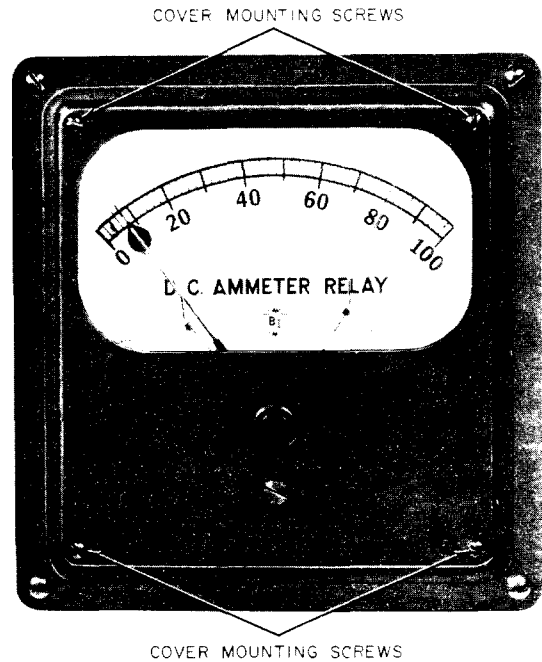

Fig. 4—Typical Ammeter Relay
3.04 Remove the front cover by removing the cover mounting screws (Fig. 4). Loosen four mounting screws on inside of front cover to remove the glass. Insert new glass, position the lugs over the edges of the glass, and tighten the screws.